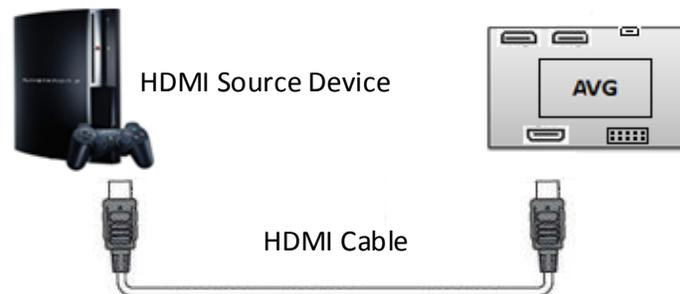

Figure 2.1. Connecting with HDMI Source Device in Stand-alone Mode
- When testing with HDMI Source device or the output port of repeater device, connect the SL-881 to your source device in the way shown in Figure 2.1.
1. Use the HDMI cable to connect HDMI source device to the SL-881 HDMI IN port, as shown in Figure 2.1.
6. Use the HDMI cable to connect source device to the SL-881 HDMI IN port, as shown in Figure 2.1. Now the source device is tested with the new loaded EDID content.